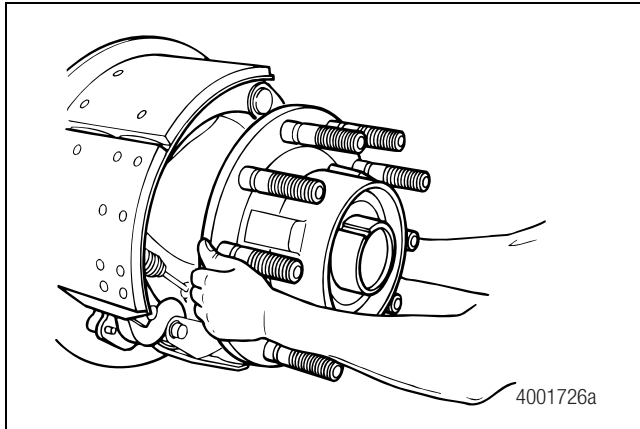
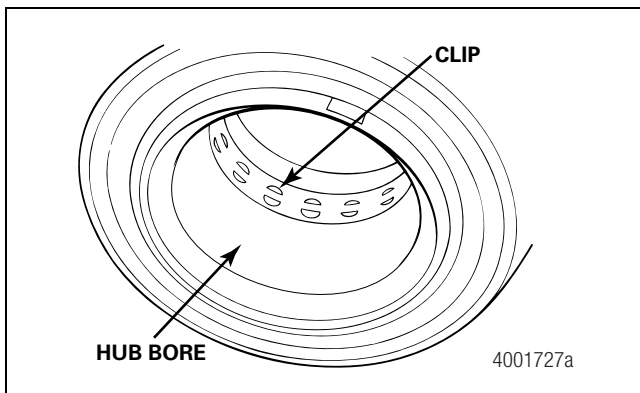

Figure 3.15
Figure 3.16
9. Grasp the hub assembly with both hands and pull the hub as straight as possible to avoid dislodging the clip inside the hub bore. Figure 3.15 and Figure 3.16.
- Pull the hub as straight as possible off the spindle to avoid dislodging the clip inside the hub bore. Figure 3.15 and Figure 3.16.